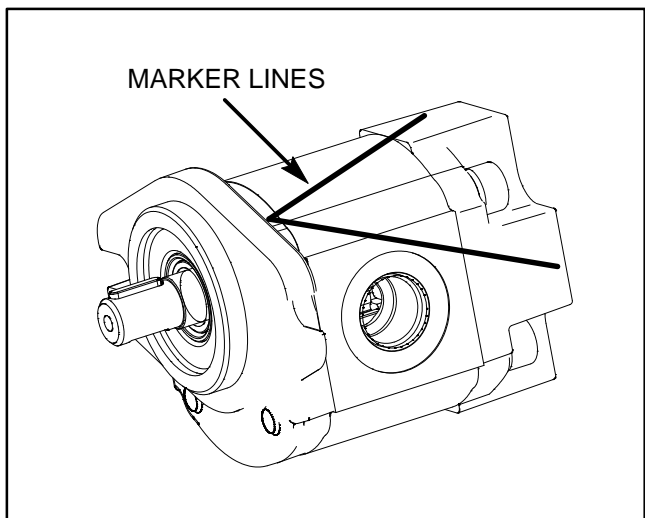

Figure 24
2. Use a marker to make a "V" across the front cover, body and rear cover for assembly purposes (Fig. 24).